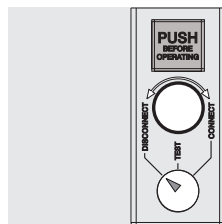

Figure 40
- circuit breaker in DISCONNECT position (see Figure 40).